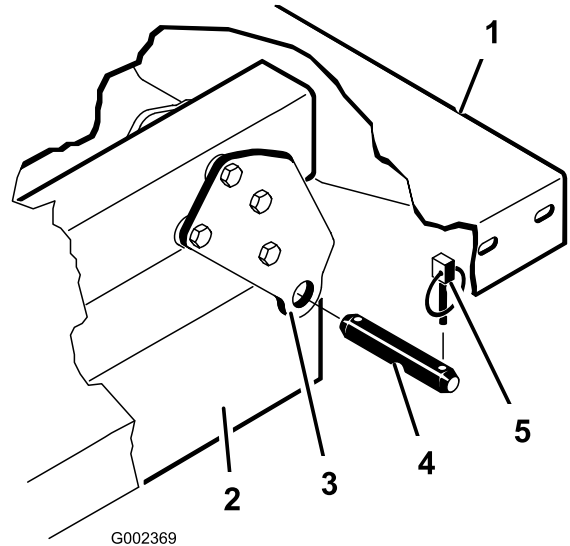

Figure 35
3. Remove the clevis pins securing the cylinder rod ends to the bed mounting plates by pushing the pins towards the inside (Figure 35).
4. Remove the lynch pins and clevis pins securing the pivot brackets to the frame channels (Figure 35).
Note: Ensure that the rear pivot plates are bolted to the bed frame/channel so that lower end angles to the rear (Figure 35).
2. Carefully set the bed onto the vehicle frame aligning the rear bed pivot plate holes with the holes in the rear frame channel and install 2 clevis pins and lynch pins (Figure 35).
3. With the bed lowered, secure each cylinder rod end, to the appropriate slots in the bed mounting plates with a clevis pin and lynch pin. Insert the clevis pin from outside of the bed with the lynch pin toward the outside (Figure 35). The rear slots are for a full bed installation and front slots are for a 2/3 bed installation.